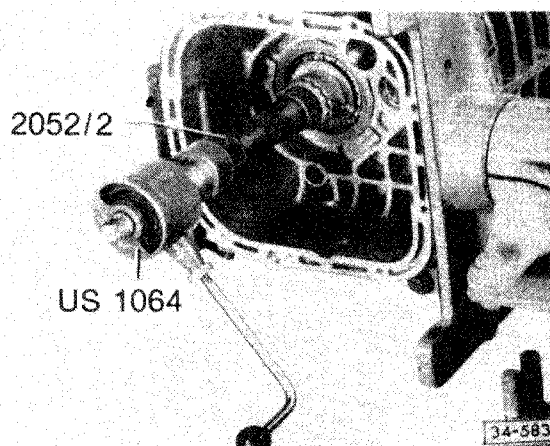

Fig. 7 Tapered roller bearing, checking turning torque
- check turning torque of tapered roller bearing, see Fig. 7